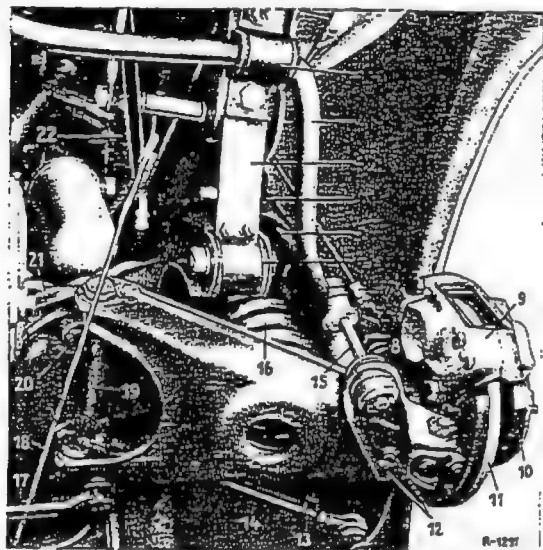

Fig. 32-6/3
1. Detach the torsion bar mounting from the lower control arms. To do this unscrew the hexagon nuts, pull out the hexagon screw (16) and remove the cup washers, the rubber buffers, and the spacer tubes (Figs. 32-6/3 and 5).